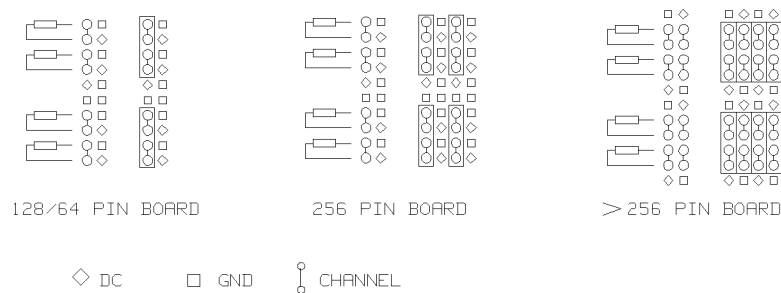

Figure 2-8. Mounting a Series Resistor
1. Locate the series pads of the channel in which you intend to insert a resistor. The two series pads are linked by a strip of printed circuit track (Figure 2-8).